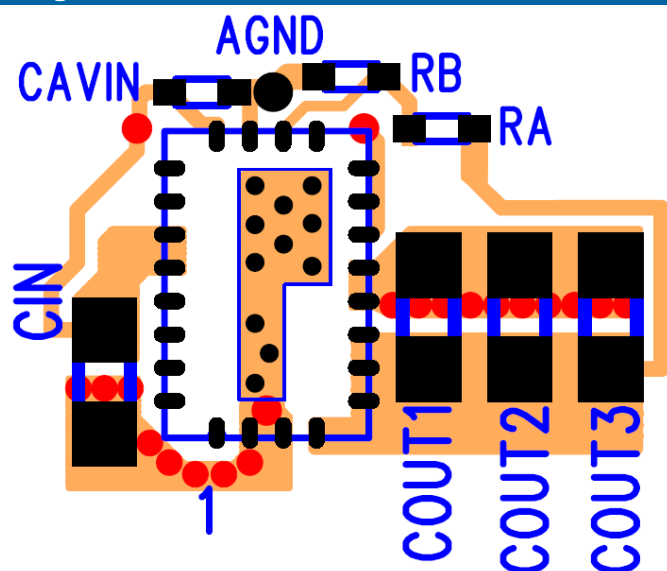

Figure 7. Optimized Layout Recommendations
**Recommendation 5:** AVIN is the power supply for the small-signal control circuits. It should be connected to the input voltage at a quiet point. In Figure 7 this connection is made at the input capacitor. Connect a 1μF capacitor from the AVIN pin to AGND.
**Recommendation 6:** The layer 1 metal under the device must not be more than shown in Figure 7. See the section regarding exposed metal on bottom of package. As with any switch-mode DC/DC converter, try not to run sensitive signal or control lines underneath the converter package on other layers.
**Recommendation 8:** Keep  $R_A$ ,  $R_B$  close to the VFB pin (See Figures 7). The VFB pin is a high-impedance, sensitive node. Keep the trace to this pin as short as possible. Whenever possible, connect  $R_B$  directly to the AGND pin instead of going through the GND plane.